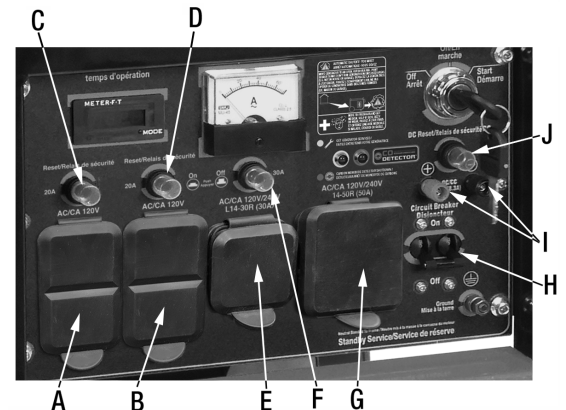

Figure 11
This twist lock receptacle (E) Fig.11 is a NEMA L14-30 twist lock receptacle and requires a NEMA L14-30 plug to make the connection. If you are unsure about the use of this twist lock receptacle or how to use the appropriate plug, contact a qualified electrician for more information. This receptacle has its own reset button (F) placed directly above.
This 120/240V receptacle (G) Fig.11 is a NEMA 14-50R receptacle and requires a NEMA 14-50P (50A) plug to make the connection. May be used to supply electrical power for the operation of 120V and/or 240V AC, single phase 60 Hz electrical loads, such as welders and dryers. If you are unsure about the use of this receptacle or what can be connected, contact a qualified electrician for more information.